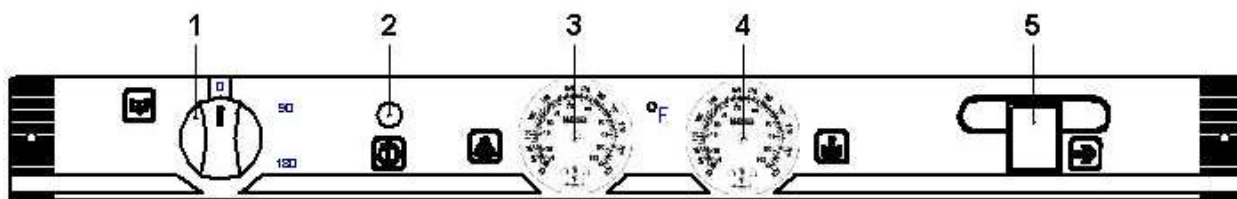

Fig. 8
Set the selector knob (1) (Fig. 8) to the 90 seconds or 180 seconds cycle. The Pilot light (2) will come on and the rinse and wash water start to fill the machine.